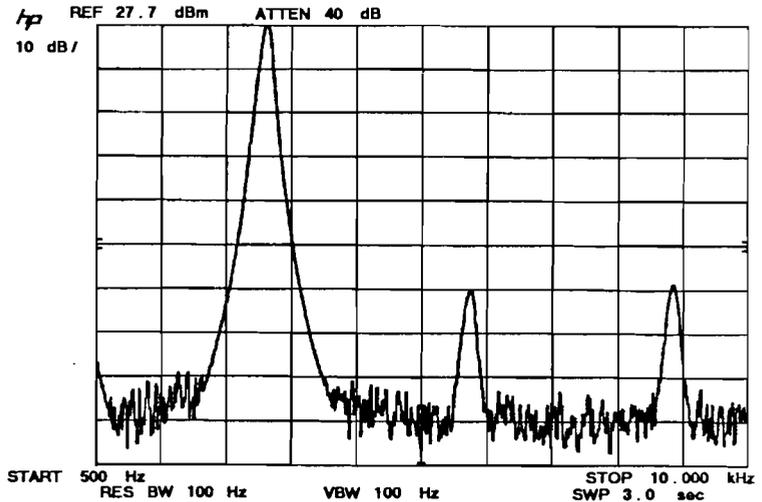

Figure 9-3. Typical Spectrum During 2nd Harmonic Adjustment
21. Set up the analyzer to show the fundamental, at 0 dB, and the first two harmonics.(Refer to Figure 9-3).